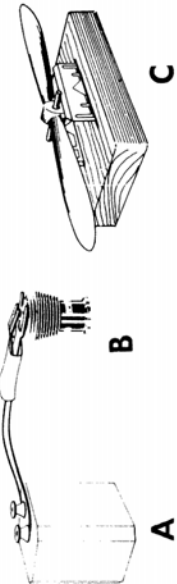

FIG. 1
4. Procure a 1½ volt Cox dry cell battery, or equivalent, and connect it with 2 flexible insulated wires to the glow plug clip as shown in the diagram A and B — Fig. 1. Do not use a stronger battery. If you do, the plug will burn out. The connections should be soldered to insure good contact, and taped to prevent bare ends of wire from getting together and "shorting" the battery. Be sure the battery is a good one. Your dealer sells batteries and glow plug clips. The Cox plastic mounted glow plug clip (Cat. No. 755-6) with wires already attached is recommended and requires no soldering.
of plastic along the edges of the blades. Fit a drill or shaft through the hole and rest the shaft on razor blades set in wooden blocks as shown in C-Fig. 1. Sand the heavy blade until the propeller will balance in a horizontal position. Care must be taken to do the sanding without spoiling the airfoil characteristics of the propeller blades. Caution: Use only nylon or wooden props. Styrene props are extremely dangerous on these engines.
5. Connect the battery by snapping the clip on the glow head, B-Fig. 1.